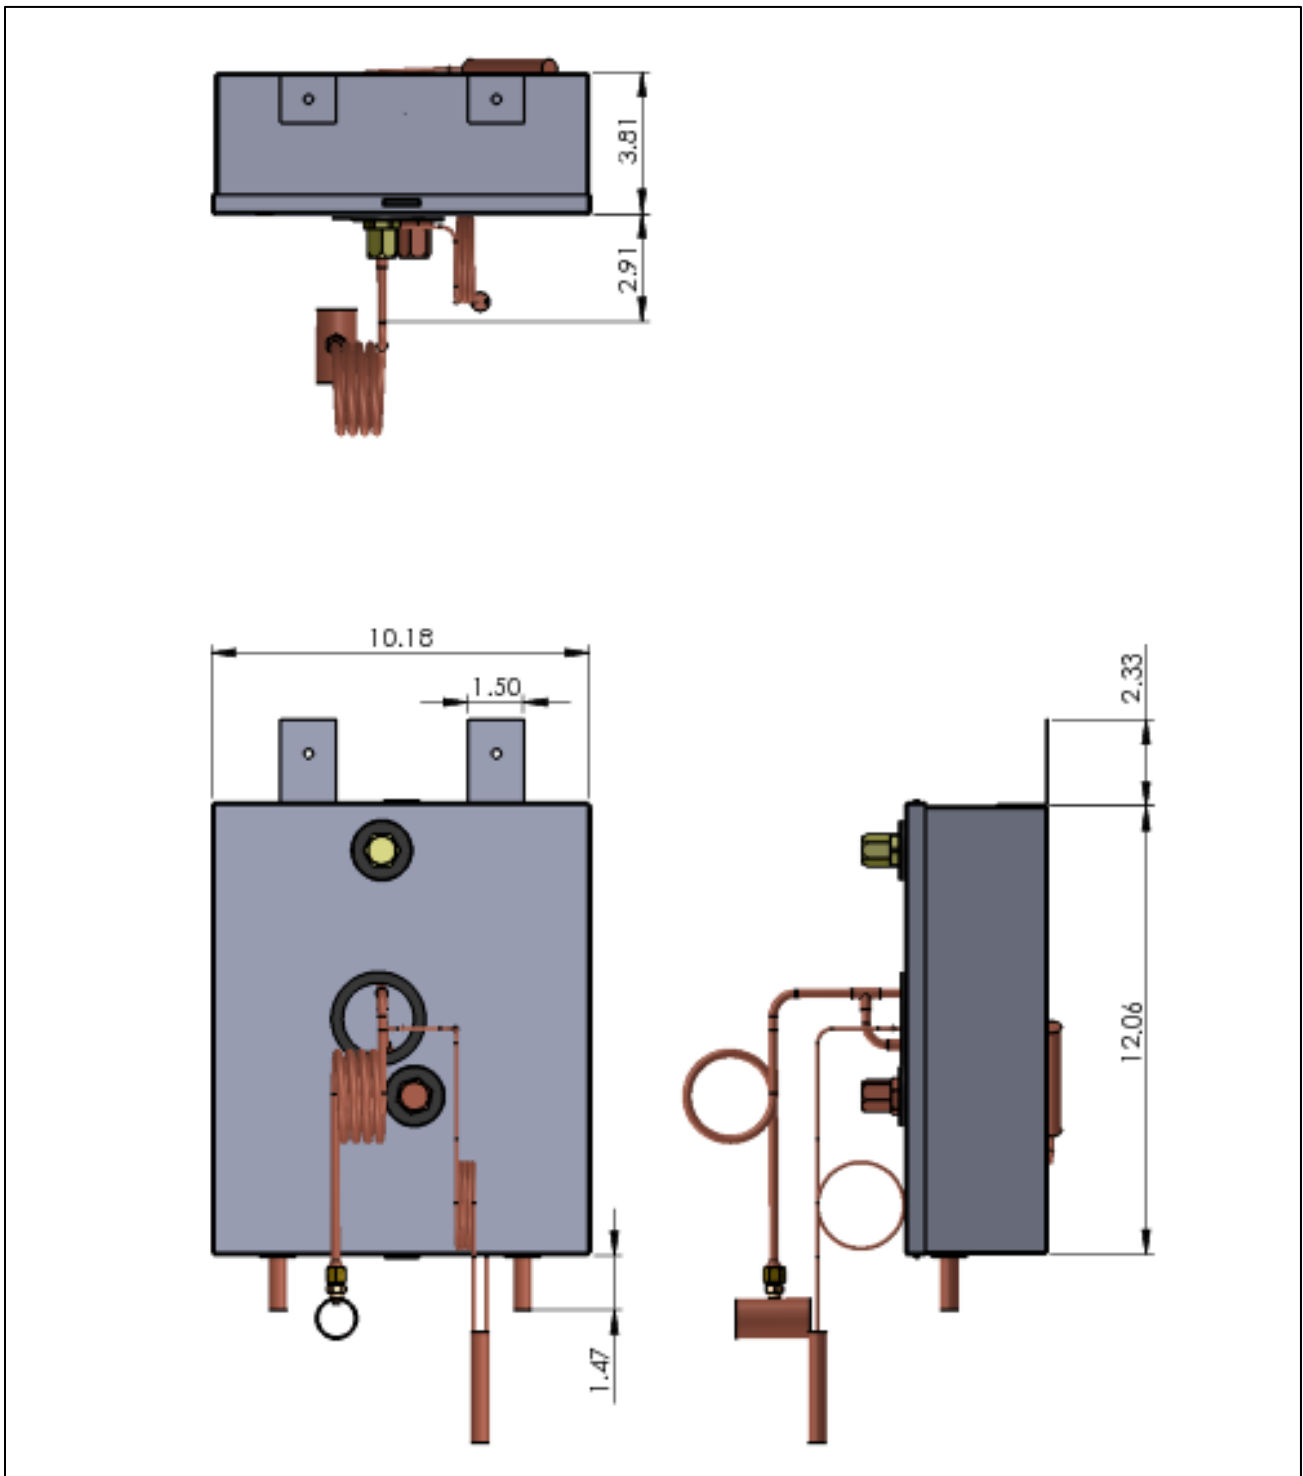

**Figure 8c. TXV Control Installed next to Horizontal Left Flow Air Handler**
For horizontal air handler applications (left or right air flow), the TXV control box is field positioned external to the air handler and can be fastened to (1) the cabinet side surface that is pointed upward, or (2) on a solid mounting surface immediately adjacent to the air handler as shown typically in Figures 8c and 8d.